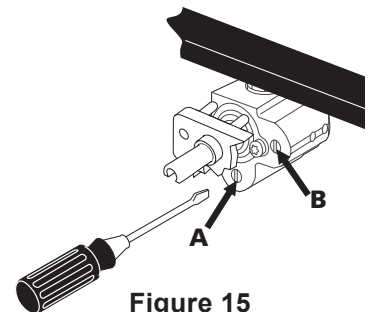

Figure 15
- The inner portion (Simmer) of the dual burner flame size or the rear portion of the bridge burner flame size can be increase or decrease with the turn of screw A. Use screw B to adjust flame size of the outer portion of the Dual Burner or the center portion of the Bridge Burner (Figure 15). Turn the screw counterclockwise to increase flame size. Turn clockwise to decrease flame size. Adjust flame size until you can quickly turn the knob from LITE to lowest position without extinguishing the flame. Flame should be as small as possible without going out.